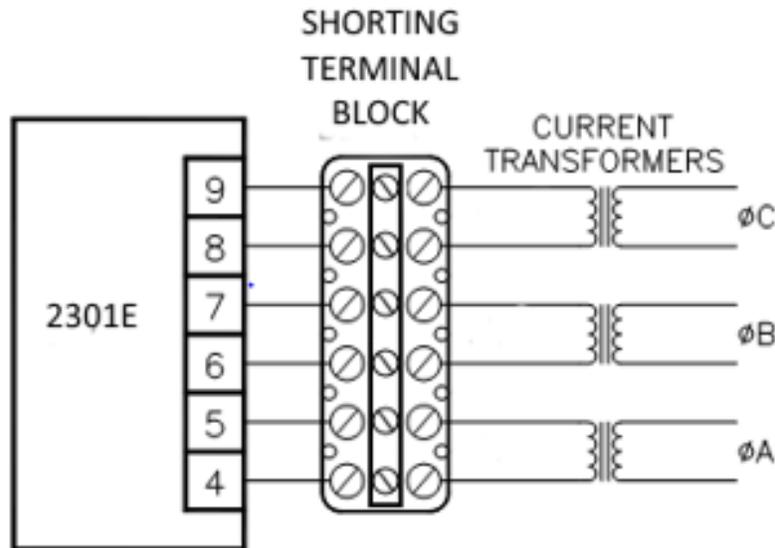

Figure 5-1. Temporary Wiring for Transformer Phase Correction
**HIGH VOLTAGE**—Never disconnect any wire attached to load sensor terminals 4 through 9 when the prime mover is running unless temporary 0.5 A, 20 W resistors are installed as shown in Figure 5-1, and all load is removed. The current transformers can develop dangerously high voltages when open circuited while the prime mover is running.
The Phase Correction Procedure requires that the prime mover be shut down many times to disconnect the current transformers or short the current transformers. Figure 5-1 is a typical recommended connections for current transformers.
**HIGH VOLTAGE**—The current transformers can develop dangerously high voltages. Do not disconnect a current transformer while the prime mover is running unless temporary 0.5 A, 20 W resistors are installed as shown in Figure 5-1, and all load is removed.
or down until you find the setting that gives you the point of marginal stability. When you are there, the oscillations will neither decrease nor increase in amplitude. If you can maintain a constant amplitude for 30 seconds to a minute, you have found the point. If the oscillations die out, your gain is too low. If they keep getting bigger, your gain is too high. Adjust if required. The following trace (Figure 5-1) is an example. Write down the Gain setting (5.92 in this example) and call it  $K_u$ . This is needed to calculate final settings.